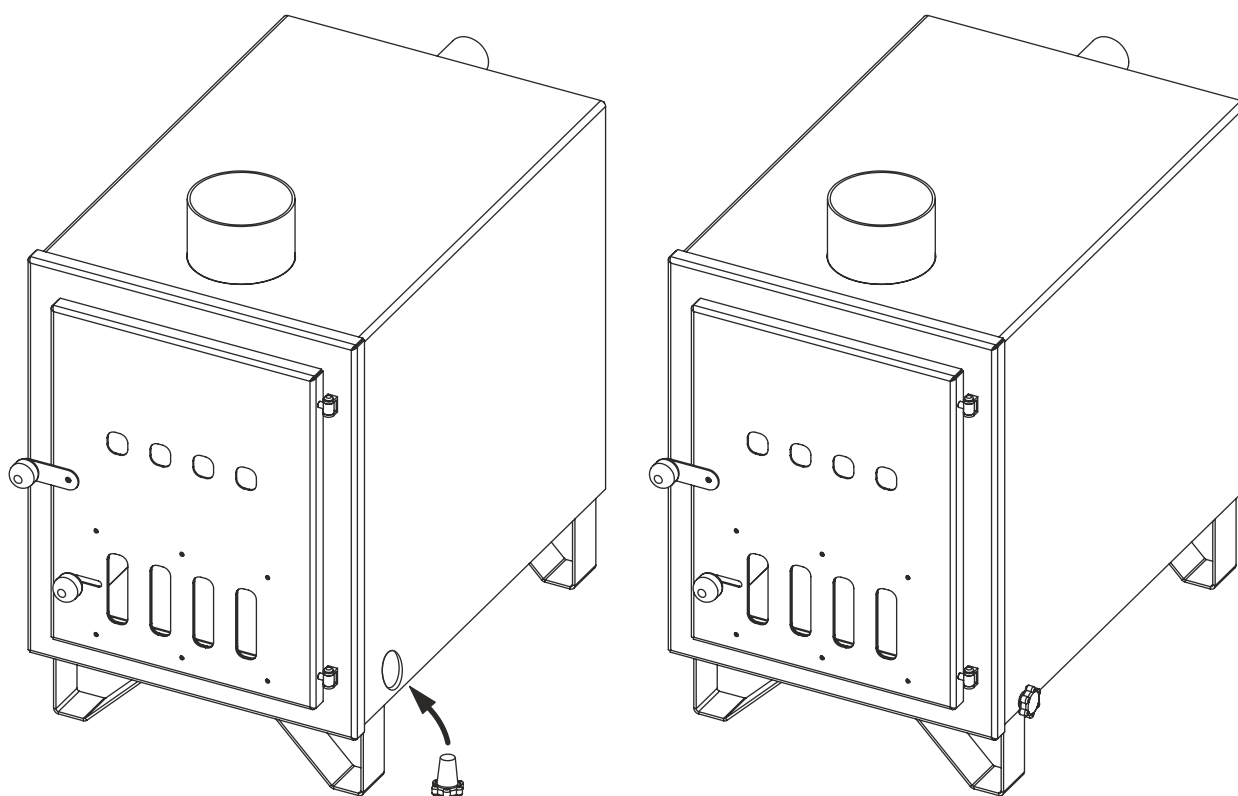

Fig. 9
- Close the tap of the hot tub and cap of the external heater (the drain plug of the external heater is inside the external heater). See Figures 9 and 10.